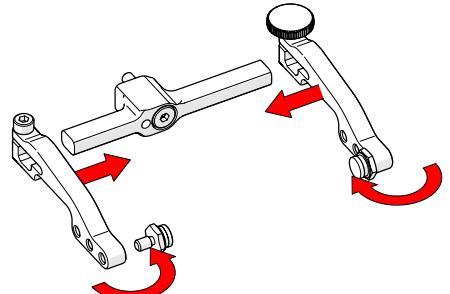

Fig. 190 - Attach arms & move buttons
5. Place the pivot buttons on the inside of the probe holder arms (Fig. 190) using a 3/8 in wrench (Fig. 2).